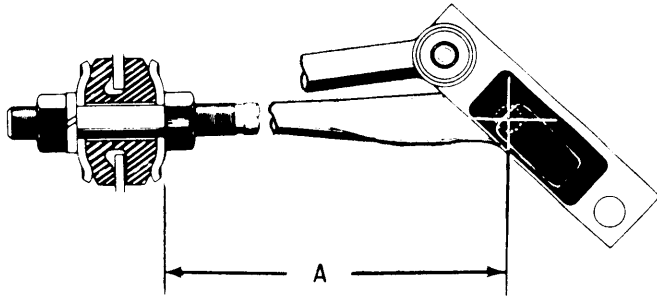

Fig. 2 View Showing Strut Bar Installation Dimension
Removal — 1) Raise vehicle and place safety stands under body. Remove tire and wheel. Measure dimension "A" on strut bar as shown in Fig. 2. Retain measurement for reinstallation.
2) If a new strut bar or control arm is being installed, dimension "A" should be 14.2" (360 mm) as indicated in Fig. 2. When tightening pivot bolt and strut bar, ensure weight of vehicle is on front wheels. Check wheel alignment.